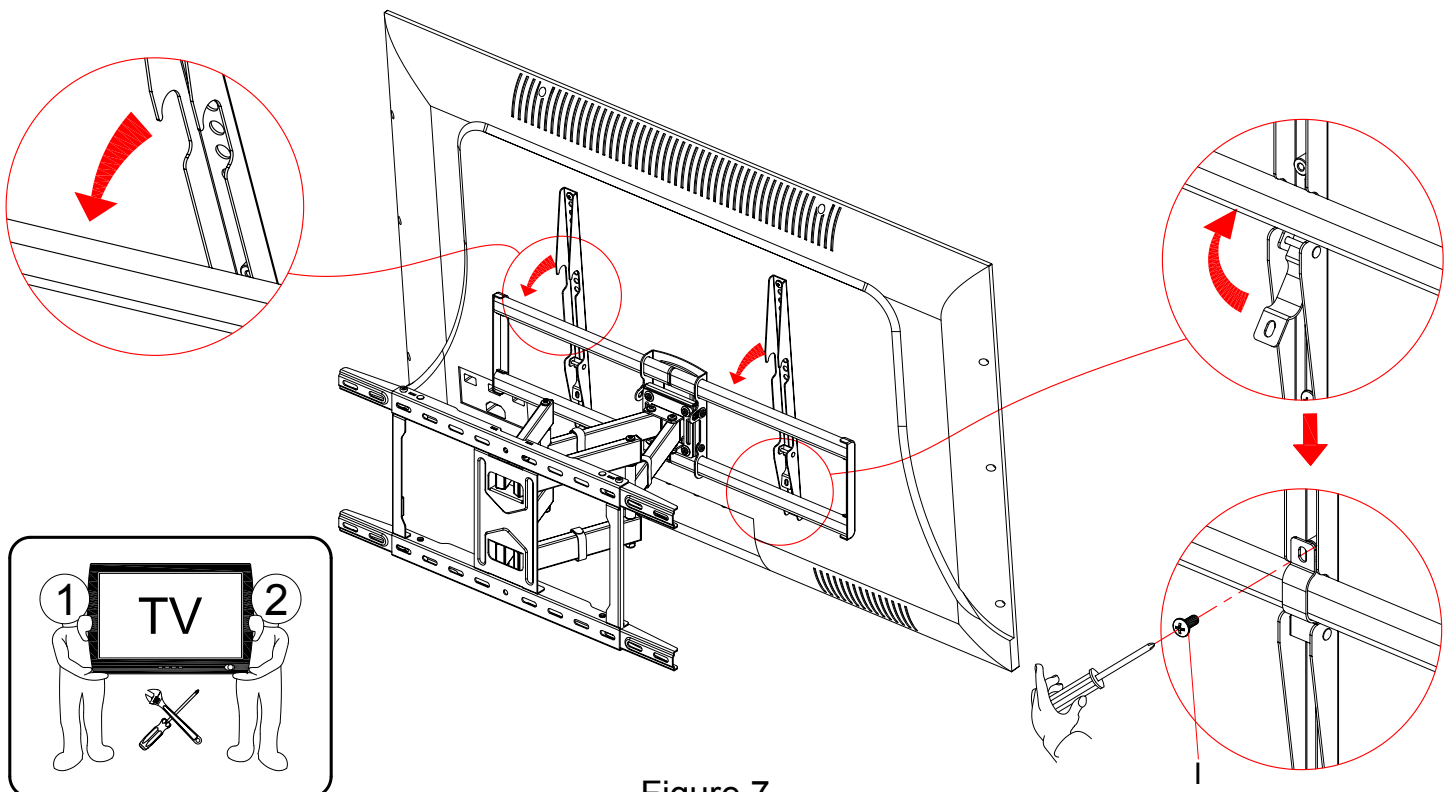

Figure 7
Step 6: Hang the pre-assembled TV unit onto extension arms (B,C). Fasten the tube clips with brackets by using screw (I) with a screwdriver. (Figure 7)